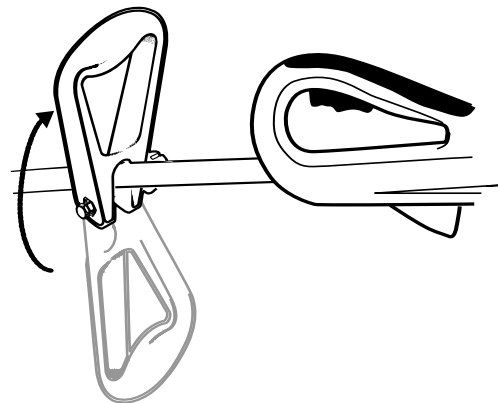

Fig. 4
1. Loosen adjustment knob and rotate handle to the top of shaft (Figure 4).